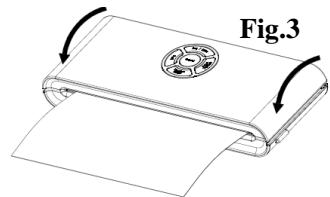

Fig.3
4. Close the upper lid and press tightly till you hear it click into place on both sides – **Fig. 3.**
The unit will start the vacuuming and sealing operation automatically – **Fig. 3.**
4. Press the food container switch "PULSE VACUUM" to start vacuuming – Fig. 3. To ensure there is no leaking of air between the cover and the food container, use your hand to push down the cover knob at the beginning of the vacuuming process.